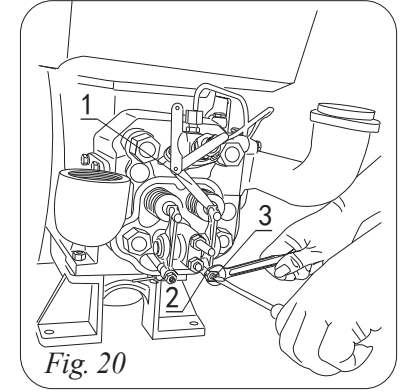

Fig. 20 Adjusting the valve clearance
3. Loosen the locking nut and turn the adjusting screw on the rocker arm with screw driver(Fig. 20), to set the valve clearance to the specified value by inserting feeler gauge between the valve stem and the rocker arm(Intake valve clearance is 0.35mm, and exhaust valve clearance is 0.45 mm)